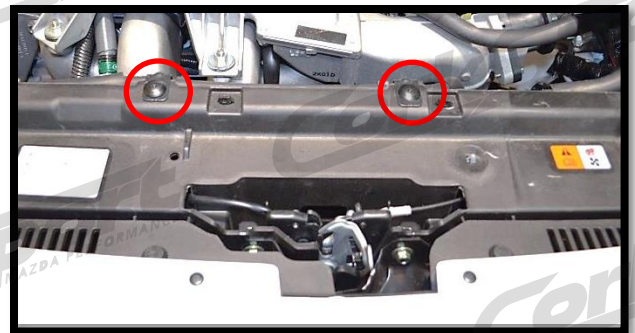

Figure 2l
- q) **Replace the two plastic screw clips fastening the intake snorkel to the core support (Figure 2l).**
- q) Replace the two plastic screw clips fastening the intake snorkel to the core support (red circles in Figure 2l).**